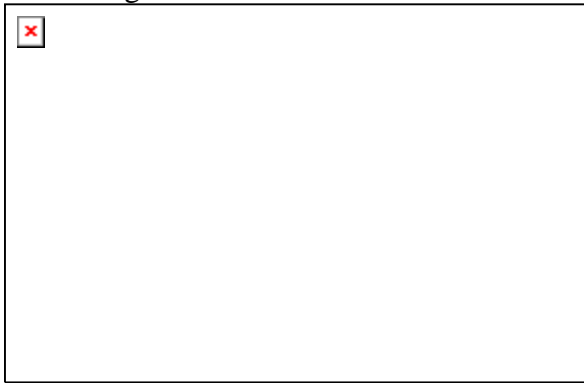
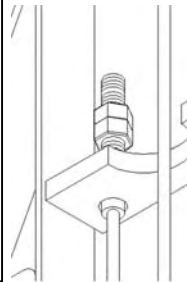

Figure 6a
Figure 6b
2. Remove equalizing cables from the accessory kit box, and then locate the (8) ½”-13UNC nuts from a polybag in the hardware kit box.
3. Equalizing cables are to be routed as shown in **Fig. 6a**. Using the first cable, insert the short threaded stud through the 9/16” dia. hole at the bottom of the carriage, and feed upwards until the stud comes through the top of the carriage. Place a ½”-13UNC nut at the center of the stud, and then **firmly tighten** a second nut up against it using two wrenches. Pull the cable back down through the bottom of the carriage. (**Fig. 6b - cross-sectional view of bottom of carriage**).
4. At the bottom of the column, remove the hitch pin, pulley pin and pulley from the baseplate (**Fig. 6c**). Route equalizing cable around pulley and reassemble the pulley to the baseplate. **IMPORTANT – Hitch pin must be installed securely**. Then route the cable up through the carriage, around the pulley at the top of the column, across the crossmember, around the pulley at the top of the other column and then down (**Fig 6a**). Insert the threaded stud into the 9/16” Dia. hole in the top of the other carriage.